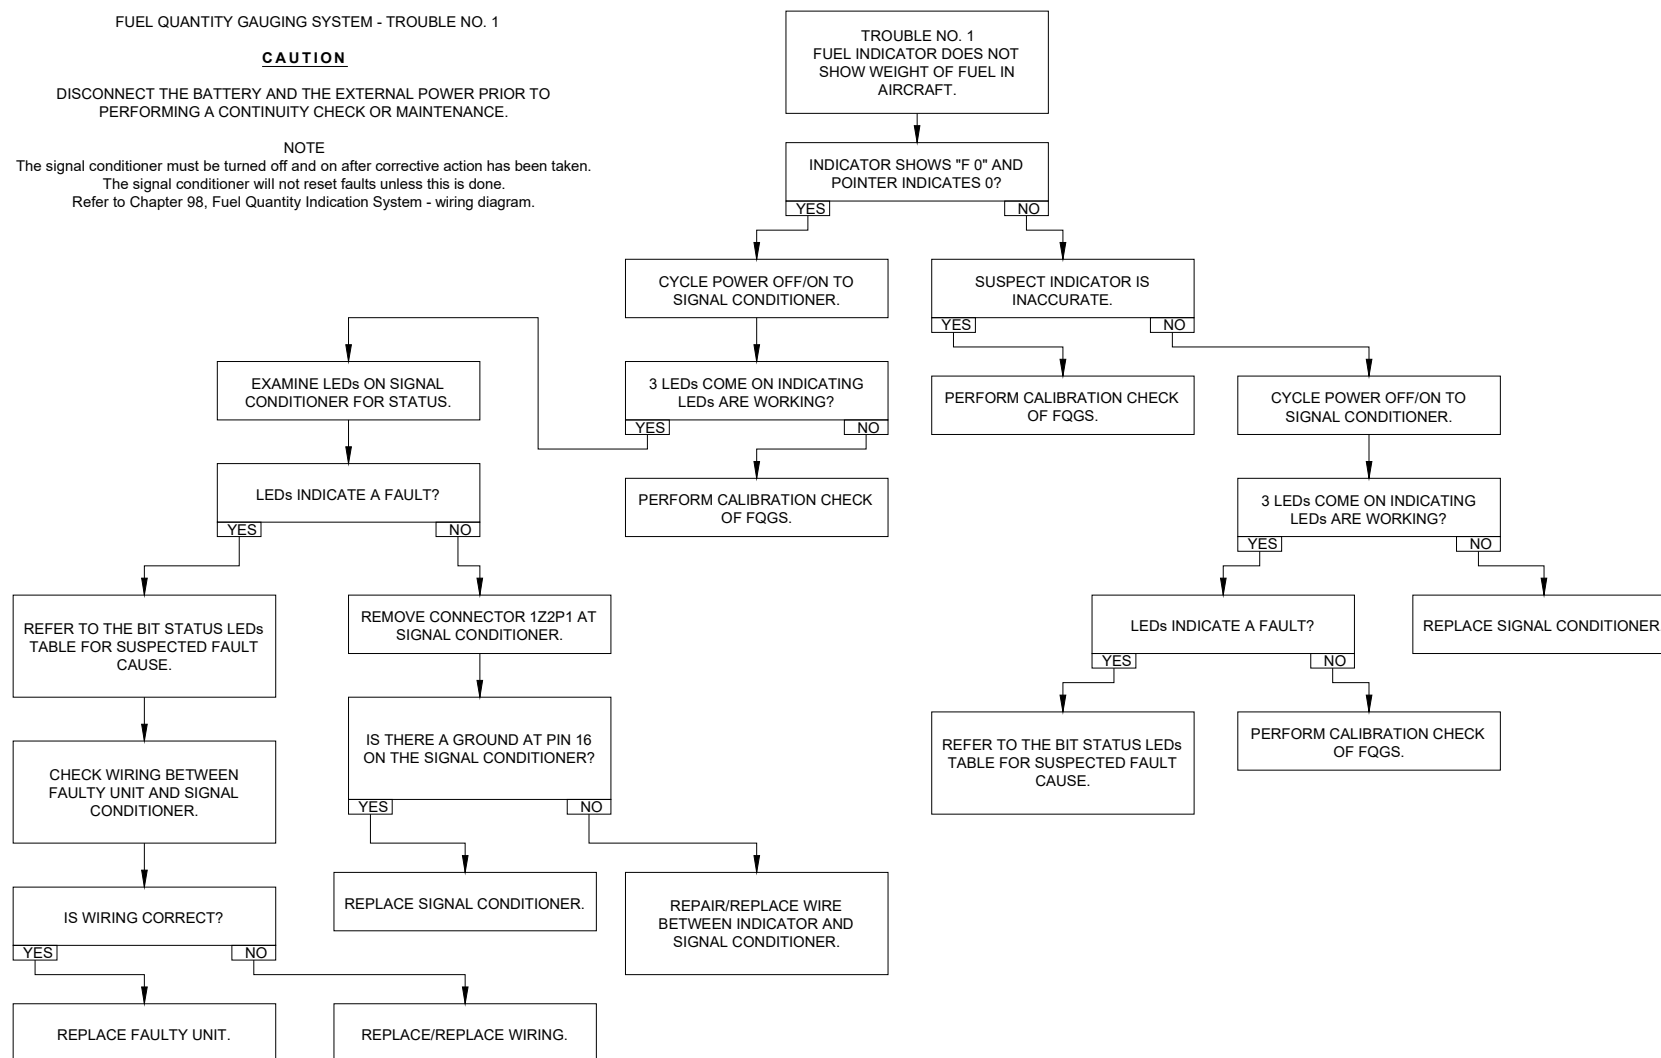

Figure 95-40: Fuel Quantity Gauging System - Trouble No. 1
- If the indicator does not show the weight of fuel in the helicopter, refer to Trouble No. 1 (Figure 95-40).